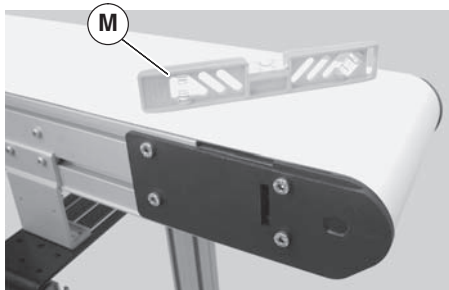

Figure 3
*Conveyor **MUST** be mounted straight, flat and level within confines of conveyor. Use a level (M of Figure 3) for setup.*